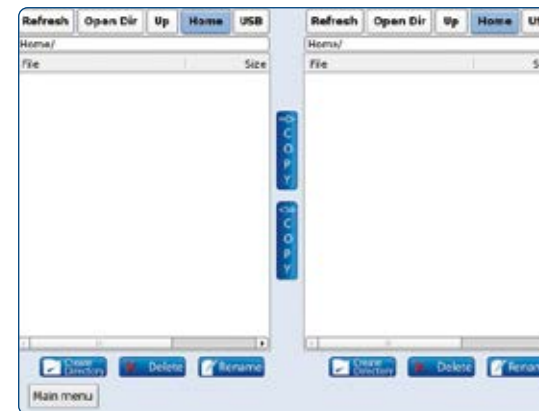

Figure 41: Explorer Menu.
1. Go to the Main Menu and press the Explorer Button (Figure 13). The Explorer (Figure 41) displays simultaneously two directories; the Arc View Controller Home per default. Select USB for the second directory.